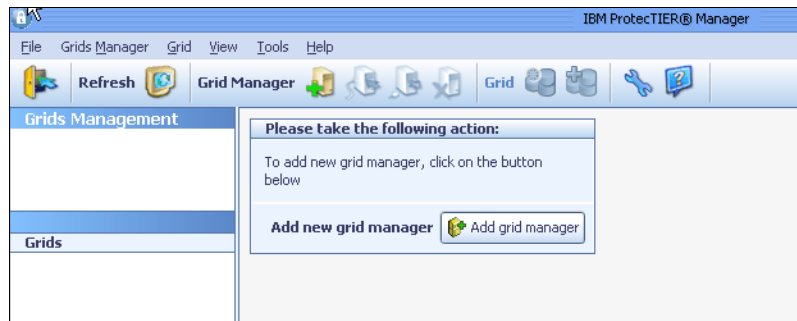

Figure 5-95 PT Replication Manager: Add ProtecTIER Replication Manager window
- The ProtecTIER Replication Manager application window opens. Select **ProtecTIER Replication Manage** → **Add ProtecTIER Replication Manager** (Figure 5-95) to create a new grid.